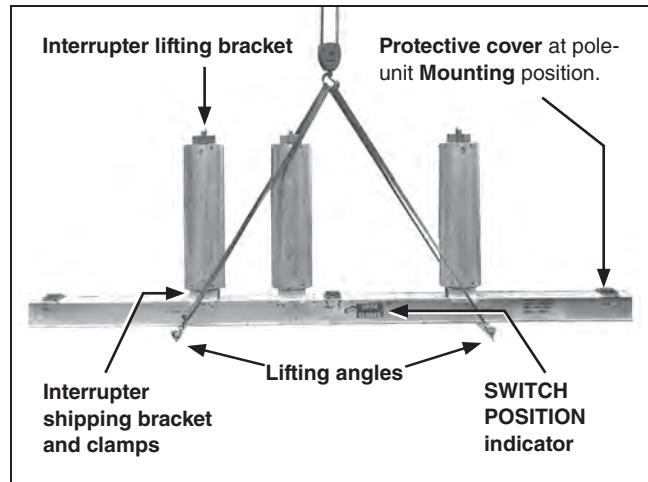

Figure 5. Hoisting the high-speed base using a crane.
STEP 8. Attach the supplied lifting angles to the high-speed base using the $\frac{1}{2}$ -12 \times 1 $\frac{1}{4}$ -inch hex-head galvanized steel cap screws furnished. See Figure 5. Securely tighten the cap screws, and then attach four suitable lifting slings to the lifting angles.
- (e) Remove the protective cover on the high-speed base at the pole-unit **Mounting** position. See Figure 5 on page 12. Continue to raise the pole-unit to its mounting position at the center of the high-speed base, as shown on the catalog drawing. Carefully guide the pole-unit to avoid damaging the insulated operating rod.